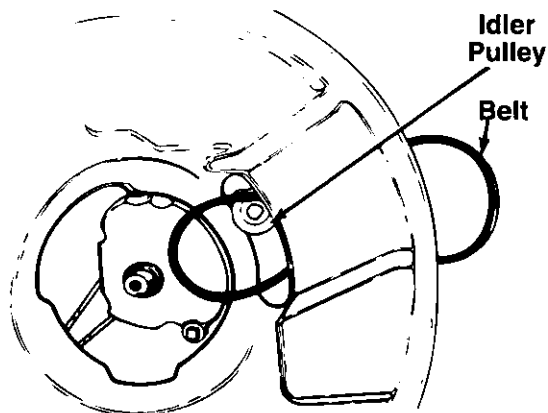

FIGURE 17.
8. Remove the belt from between the idler pulley and the belt guard on the idler pulley bracket. Refer to figure 17.
- A. Push the idler pulley up out of the way as shown in figure 17.